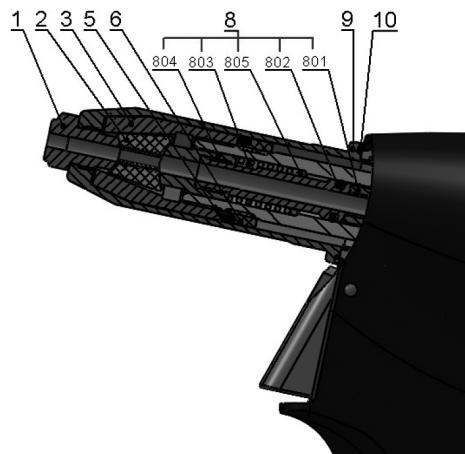
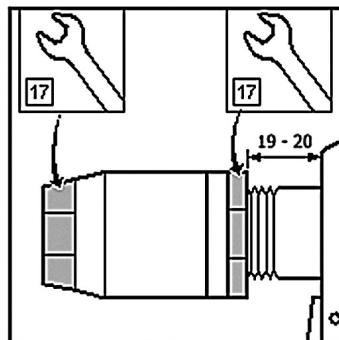

Fig.2
Fig.3
Disconnect the tool from the source of compressed air, unscrew the front nozzle /fig.2 - pos.9/ by means of a spanner no. 23, set the spanner no.17 onto the clamping sleeve /fig.2 - pos.3/, set the spanner no. 17 on the backnut /fig.2 - pos.6/ and loosen. Unscrew the clamping sleeve, replace the jaws /fig.2 - pos.2/ and conduit-suction complet /fig.2 - pos.8/. All used threads are clockwise. Clean the dismounted parts thoroughly and check them visually, especially the following:
- 1) Jaws /fig.2 – pos.2/ - if worn or damaged, replace it, if dirty, clean it with a wire brush.
- 2) Nose-piece /fig.2 – pos.1/ - for wear of functional surfaces of the taper.
- 3) Conduit-suction complet /fig.2 – pos.8/ - inspect parts of the assembly, jaw pusher /fig.2 - pos.804/, spring /fig.2 - pos.803/, washer of spring /fig.2 - pos.803/, O - ring /fig.2 - pos.802/ and conduit-suction /fig.2 - pos.801/ - if damaged or worn, replace it with a new one.
- 4) Front nozzle /fig.2 - pos.9/ - check for damage of the internal surface ($\varnothing 20$).
- 5) Scraper ring /fig.2 - pos.5/ - if damaged or worn, replace it with a new one.
Mount the parts (see par. disassembly) in a reverse order. On the outer surface of the jaws /fig.2 – pos.2/ apply a drop of lubricating oil (we recommend hydraulic oil HYSPIN AWHM 32 CASTROL), apply thin layer of plastic lubricant MOGUL LV 2-3 to the conduit-suction complet /fig.2 – pos.8/. Basic set-up of the jaws is performed as in fig.3.